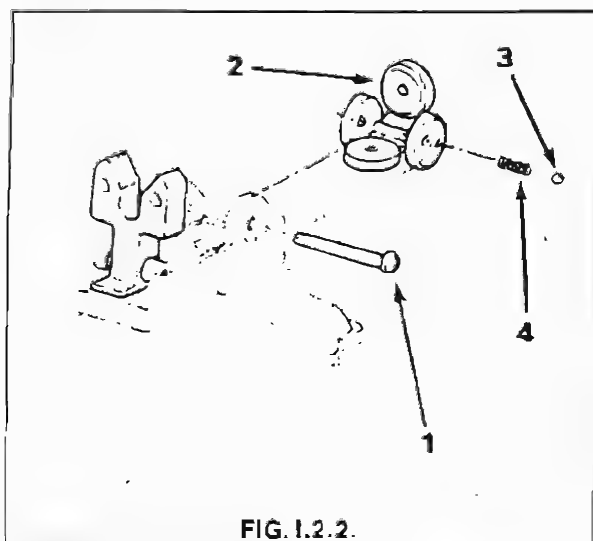

FIG. 1.2.2.
2. Using a suitable file, remove the peened metal from the end of pivot screw supporting rear sight and unscrew pivot screw. Place a finger over pivot screw hole and slightly lift rear sight to allow ball bearing to exit through pivot screw hole. Release finger gently as the ball bearing will be under pressure from the spring behind it, and remove ball bearing. Remove rear sight from cover and then remove spring from sight. See Fig. 1.2.2.